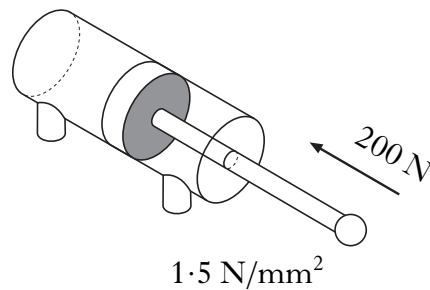

Figure Q9(c)
- (i) the effective area of the piston in the cylinder shown in Figure Q9(c) as it instrokes with a force of 200 N and is supplied with an air pressure of 1.5 N/mm^2 ;